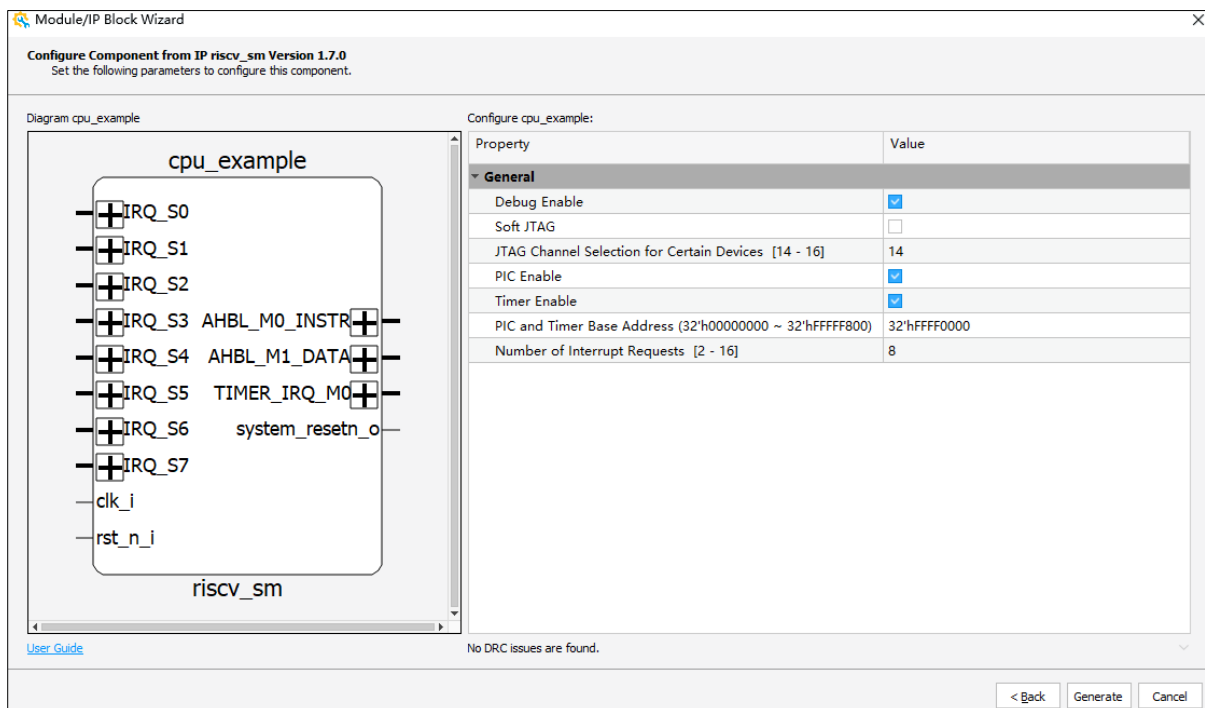

Figure 3.2. Configuring Parameters
3. Configure the parameters as needed. Click **Generate** (Figure 3.2).
1. In Lattice Propel Builder software, enable **Soft JTAG** in the IP block Wizard GUI (Figure 3.2) when generating the IP.